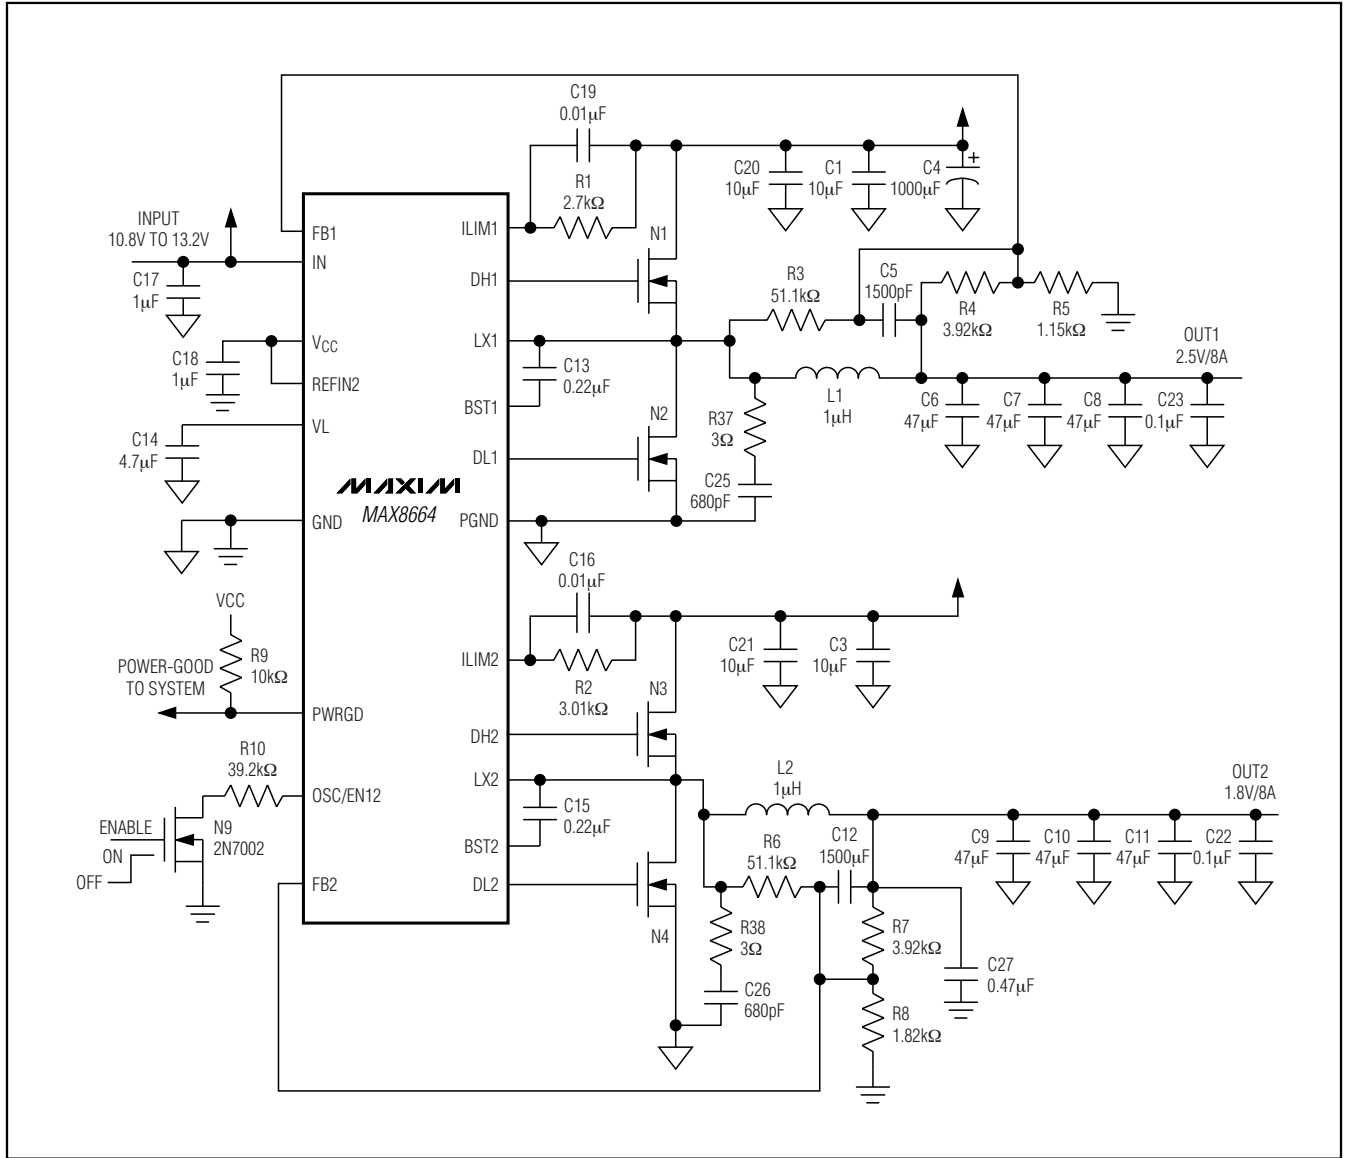

Figure 2. Low-Cost, 600kHz Typical Application Circuit
(Circuit of Figure 2, 600kHz,  $V_{IN} = 12V$ ,  $V_{OUT1} = 2.5V$ ,  $V_{OUT2} = 1.8V$ ,  $T_A = +25^\circ C$ , unless otherwise noted.)
**ENABLE WAVEFORMS (FIGURE 2)**
PWRGD is an open-drain output that is pulled low when the output voltage rises above the PWRGD upper threshold or falls below the PWRGD falling threshold. PWRGD is held low in shutdown, when VCC is below the UVLO threshold, during soft-start, and during fault conditions. PWRGD does not reflect the status of controller 2 in the MAX8664A, or when REFIN2 is connected to an external reference with either version. See Table 1 for PWRGD operation of the circuits of Figures 2–5 during fault conditions. For logic-level output voltages, connect an external pullup resistor between PWRGD and the logic power supply. A 100k $\Omega$  resistor works well in most applications.
When an overvoltage or overcurrent fault occurs on one controller of the MAX8664A, the second controller continues to operate. With the MAX8664B, a fault in one controller latches off both controllers automatically, and PWRGD is pulled low. See Table 1 for the fault-shutdown modes of the circuits shown in Figures 2–5.
**Table 1. Fault Shutdown Modes for Circuits of Figures 2–5**
Table 2. Component List for Figure 2